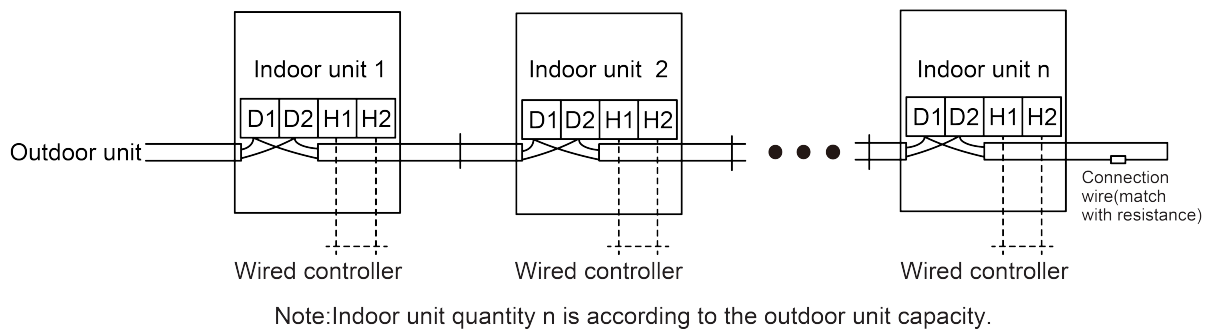

Fig.5.3.2
- (4) Fix the communication cable with clamp of electric box.
- (5) In order to ensure the reliability of communication between IDU and ODU and the communication among each IDU, add a matched resistance (supplied in a package before ex-factory) on the wiring board of the last indoor unit in a series connection. The matched resistance should be connected in parallel between terminal screw D1 and D2, as shown in Fig.5.3.2.